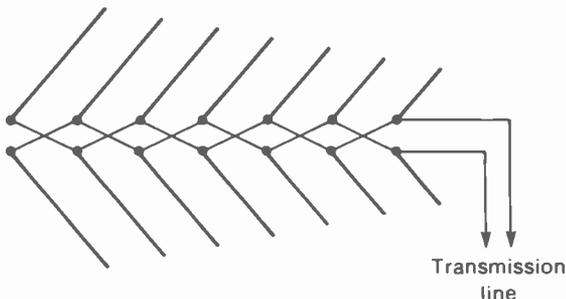

FIGURE 25-21 CONSTRUCTION OF LOG-PERIODIC ANTENNA. DIPOLES ARE DRAWN TO SCALE TO ILLUSTRATE SHORTER DIPOLES AND CLOSER SPACING FROM BACK TO FRONT.
**Log-periodic antennas.** The basic construction for a seven-element array is illustrated in Fig. 25-21. The longest dipole is at the back, and each adjacent element is shorter by a fixed ratio,